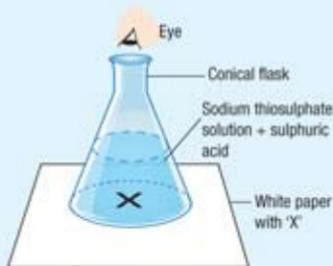

Figure 4.14
4. Observe the 'X' from the mouth of the conical flask (Figure 4.14).